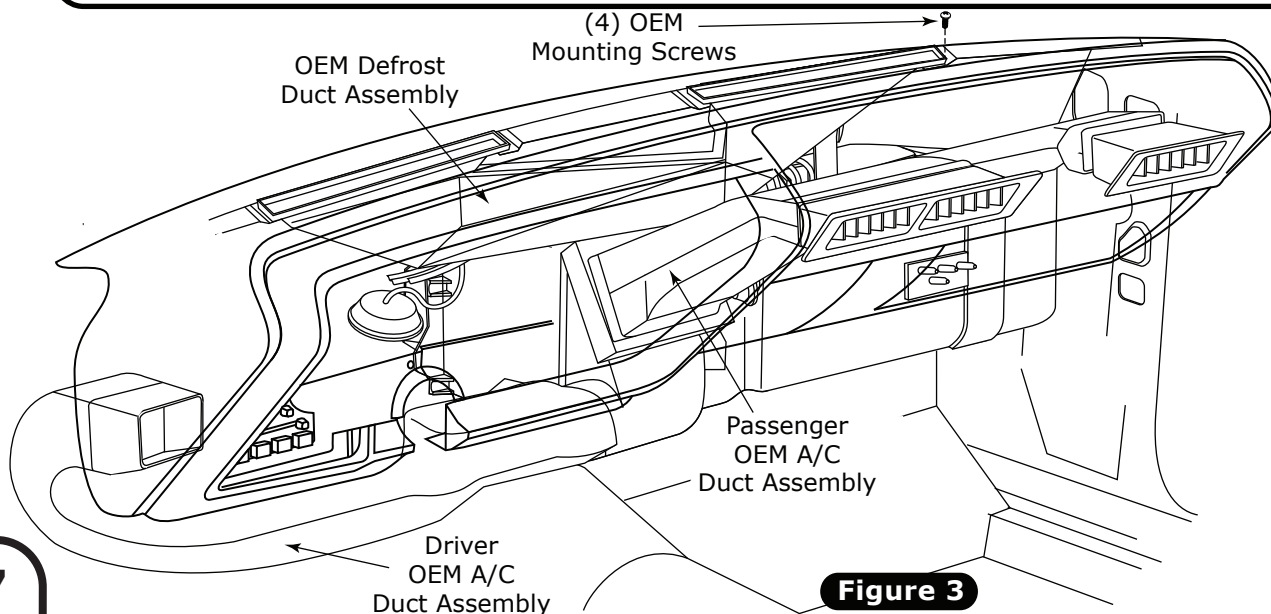

Figure 3
1. To ease installation loosen the top (4) dash mounting bolts located in defrost ducts along the bottom side of the windshield and the (2) side dash mounting bolts.
2. Pull dash away from windshield to remove (4) OEM defrost duct mounting screws (See Figure 3, below).
3. Remove passenger side OEM A/C duct assembly (See Figure 3, below).
4. Remove driver side OEM A/C duct assembly (See Figure 3, below).
5. Remove OEM defrost duct assembly (See Figure 3, below).